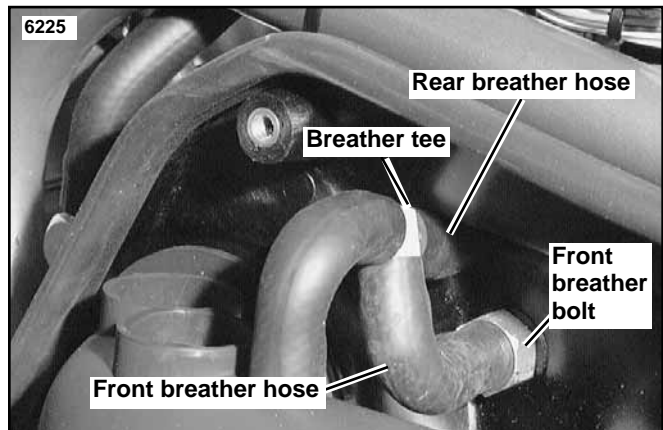

Figure 15. M2 or S3 Stock Breather Hoses
9. See Figure 15. Disconnect hoses.